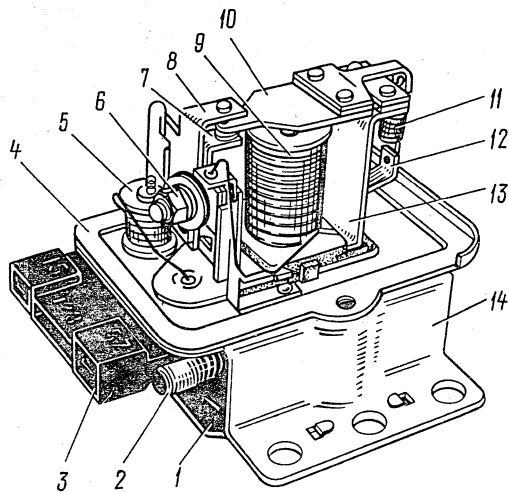
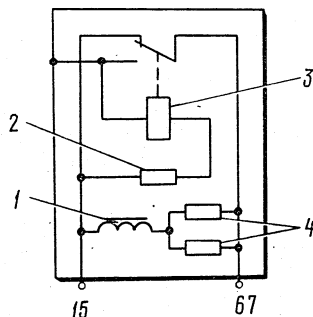

Fig. 7-10. Voltage Regulator PP-380:
Fig. 7-11. Voltage Regulator Electrical Connections:
A general view of the voltage regulator appears in Fig.7-10 and its electrical connections, in Fig.7-11.
2nd stage tests. Run the generator rotor at 83.3 s^{-1} (5000 rpm). Adjust the generator loading current of 2-12 A with rheostat 9. Check the generator voltage which must be $14.2 \pm 0.3 \text{ V}$. If it is different, stop the generator, disconnect the storage battery, remove the regulator cover and, bending bracket 12 (Fig.7-10) weaken spring 11 (if the voltage is too high) or increase its tension (if the voltage is too low). Replace the regulator cover and recheck the 2nd stage voltage.
If the voltage fails to fall within these limits, stop the generator, disconnect the storage battery, remove the regulator cover, loosen nut 6 (Fig.7-10) and shift bracket 8 a distance of 0.1-0.2 mm.
1. An open in the thermal-compensating resistor 2 (Fig.7-11) or in the regulator winding; in this case the voltage cannot be regulated and rises excessively. This defect can be discovered by measuring the resistance between "15" terminal and the "ground" (base) with an ohmmeter.
Cleaning the contacts. To clean the contacts, take off the armature spring and, loosening nut 6 (Fig.7-10), lift somewhat 1st stage stationary contact bracket 8.